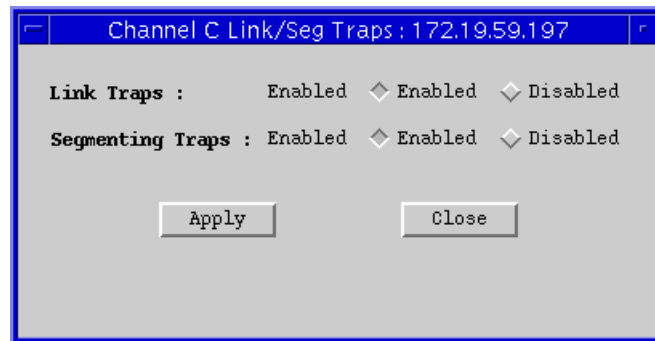

Figure 4-2. Channel X Link/Seg Traps Window
2. Click mouse button 1 on **Rptr Traps**; the Channel X Link/Seg Traps window, Figure 4-2, will appear.